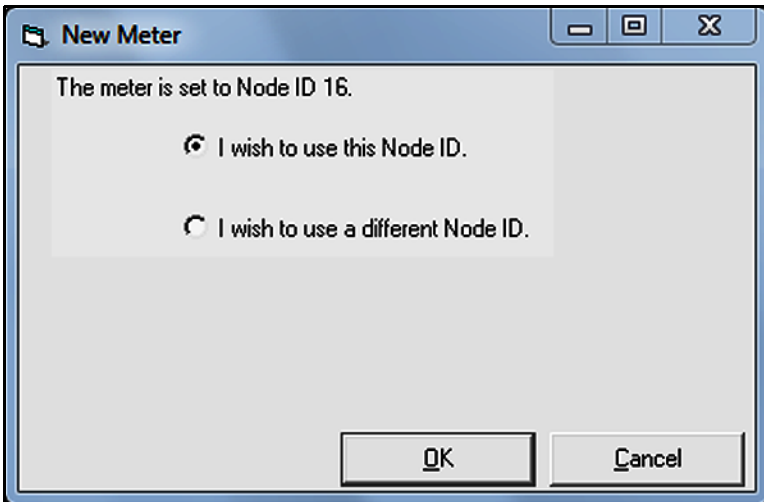

Figure 33: Node ID Confirmation
7. After responding to the previous dialog box, a dialog box showing the Node ID (16 in this example) of the meter appears (see *Figure 33* below). Select the “*I wish to use this Node ID*” radio button and then click on the [OK] button.